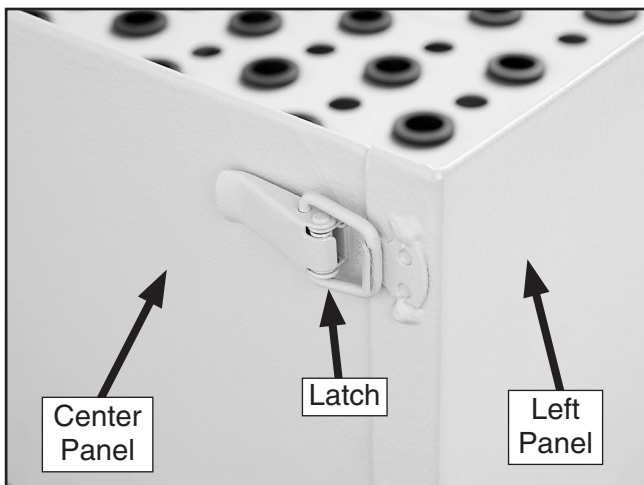

Figure 10. Panels secured with latches (one shown).
- With the side panels in the upright position, slide the center panel brackets (**Figure 10**) over the side panels and secure with the latches.